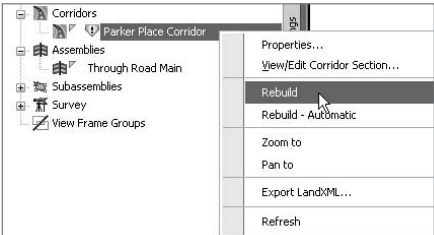

Figure 11.35
- 9. Locate the Parker Place Corridor entry on the Prospector. Right-click the entry and choose Rebuild as shown in Figure 11.35.